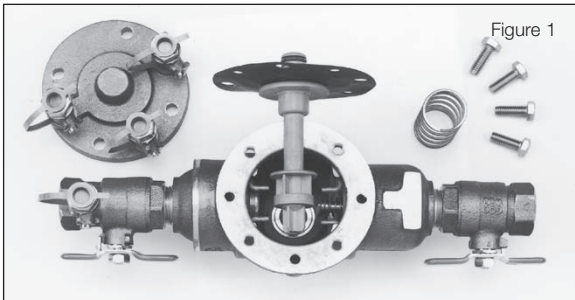
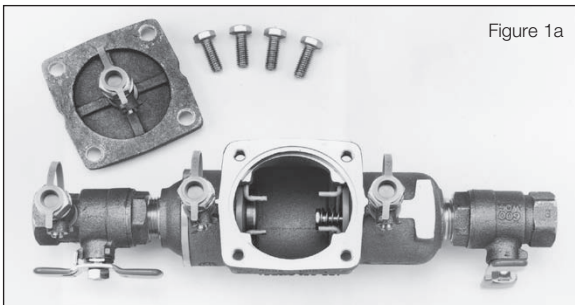

Figure 1
Figure 1a
2. Next use a wrench or socket to take the bolts out of top cover. After taking the cover off carefully inspect diaphragms, seals and seating surfaces for debris or damage (RP Fig.1, DC Fig.1a).